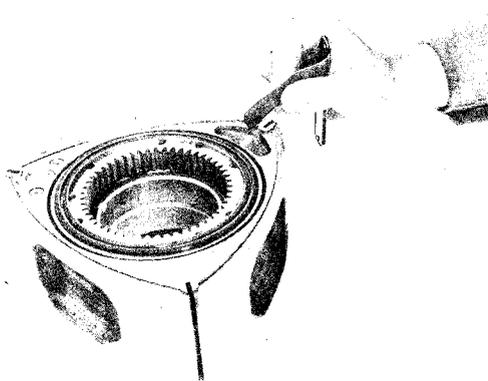

Fig. 1-48 Checking seal clearance
4. Using a feeler gauge, check the clearance between the side seal and the corner seal with these seals installed on the rotor, as shown in Fig. 1-48. If the clearance exceeds **0.4 mm (0.016 in)**, replace the side seal.